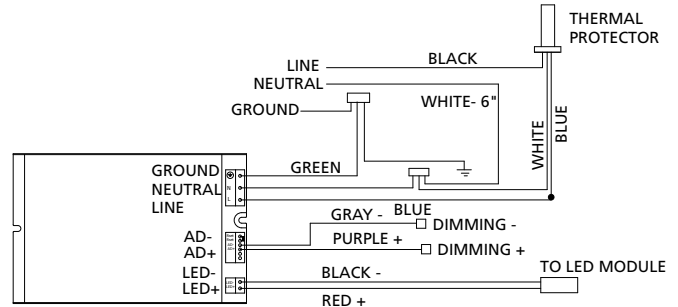

FIGURE 2
7. Wire per wiring diagram using approved wire connectors. See Figure 2.
6. Wire per wiring diagram using approved wire connectors. See Figure 2.
5. Disconnect leads and reconnect to new driver. Refer to Figure 2 for wiring diagram.